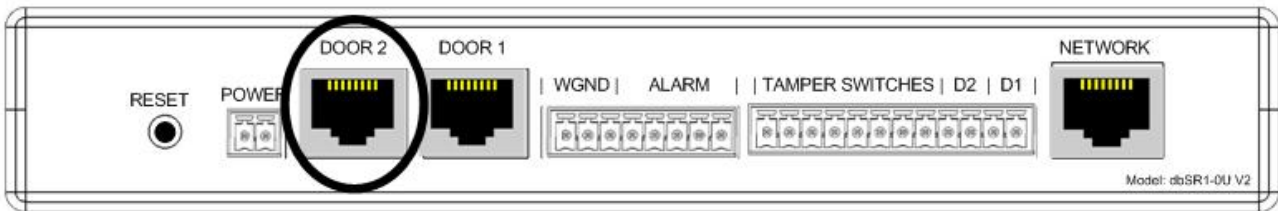

Figure 21
- Connect the CAT5 cable to the port labeled "DOOR 2" on the back of the Control Unit as shown in Figure 21.